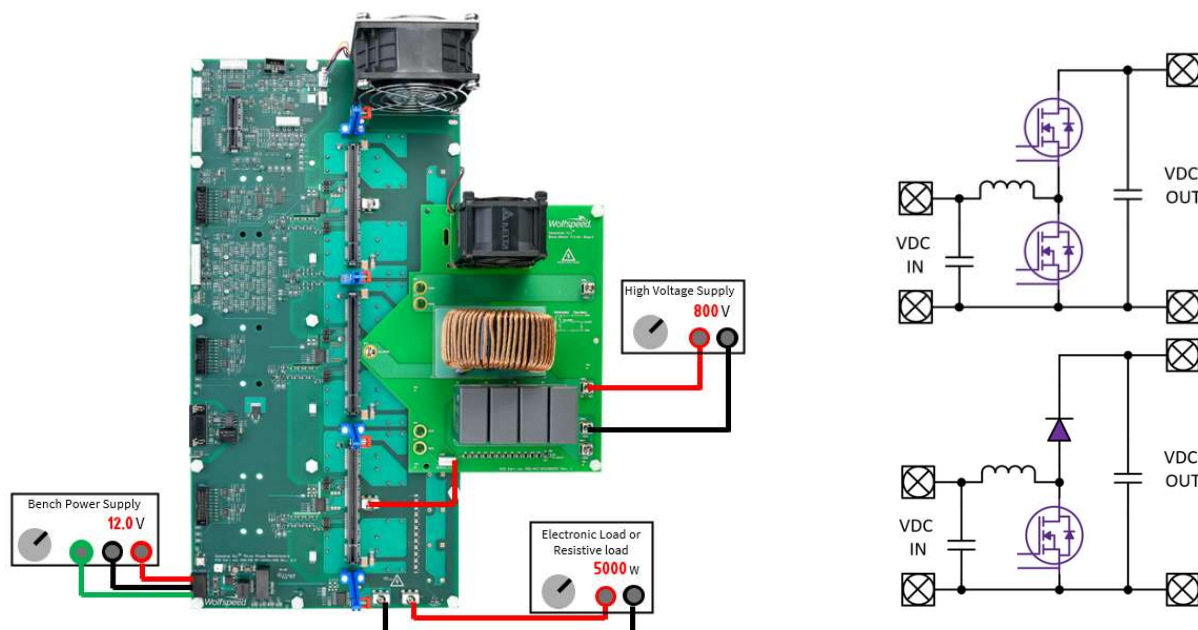

Figure 46: Connection diagram for a boost converter
- Connect buck/boost filter board to the middle phase of the motherboard using the 5 screws and terminal nuts on the motherboard as shown in Figure 46.